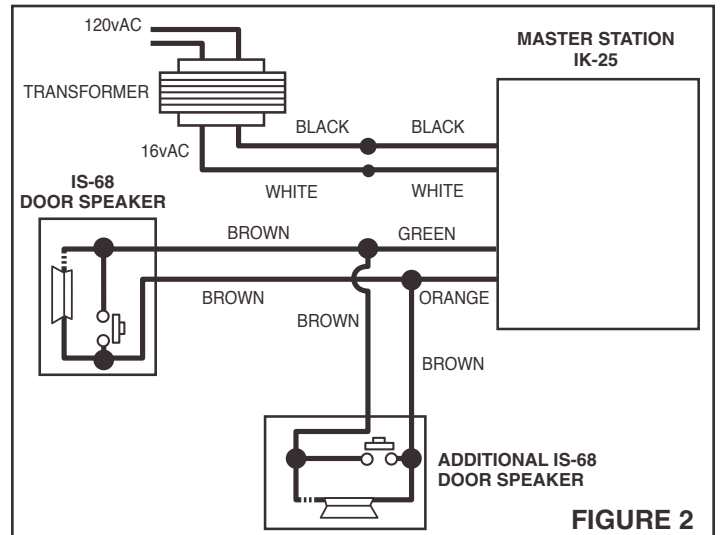

FIGURE 2
5. Wiring to IK-25 – Connect brown door speaker wires to existing connections of brown door speaker wires and green and orange master speaker wires. See Figure 2.